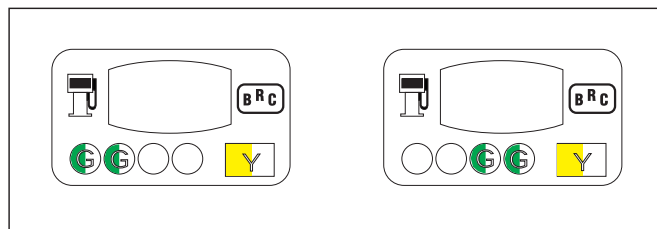

Fig. 29 End of the acquisition of the Lambda oxygen sensor signal
- If the setting phase of the lambda signal is successful, the TWO-COLOURED LED turns yellow blinking and indicates its conclusion (fig. 29).